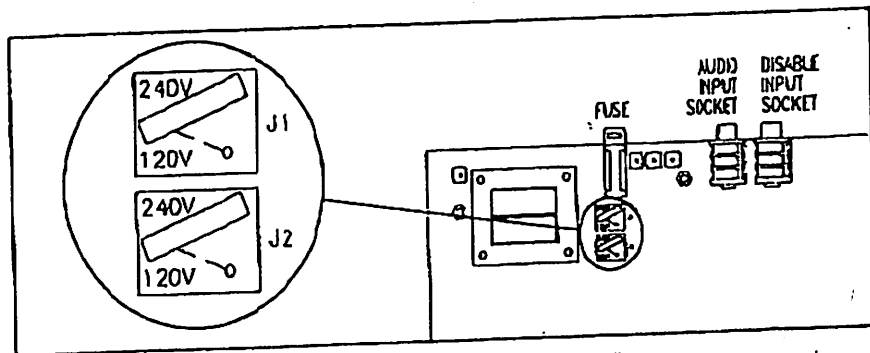

Fig 1. Mains voltage selection - Controller
| Fig 1 | Mains voltage selection - Controller | 4 |
4. Located next to the fuseholder on the circuit board are two red plastic links as shown in Fig 1. Each of these is removable and may be installed in either of two positions. These positions are clearly labeled on the circuit board as 120 volts and 240 volts. Both of the links should be installed in the appropriate position to suit the mains voltage being used. Under no circumstances should the unit be operated with these links removed, or with the links installed in different positions to each other.